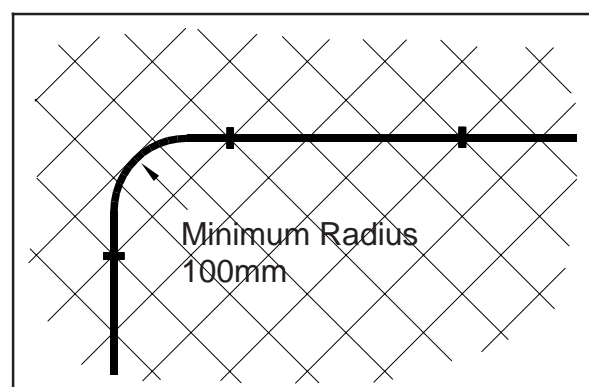

Figure 3
3. When fixing sensor cable to fences, the tightest bend radius of the cable must not be less than 100mm (4"). Note that this applies to the bend radius after installation. Refer to Figure 3.